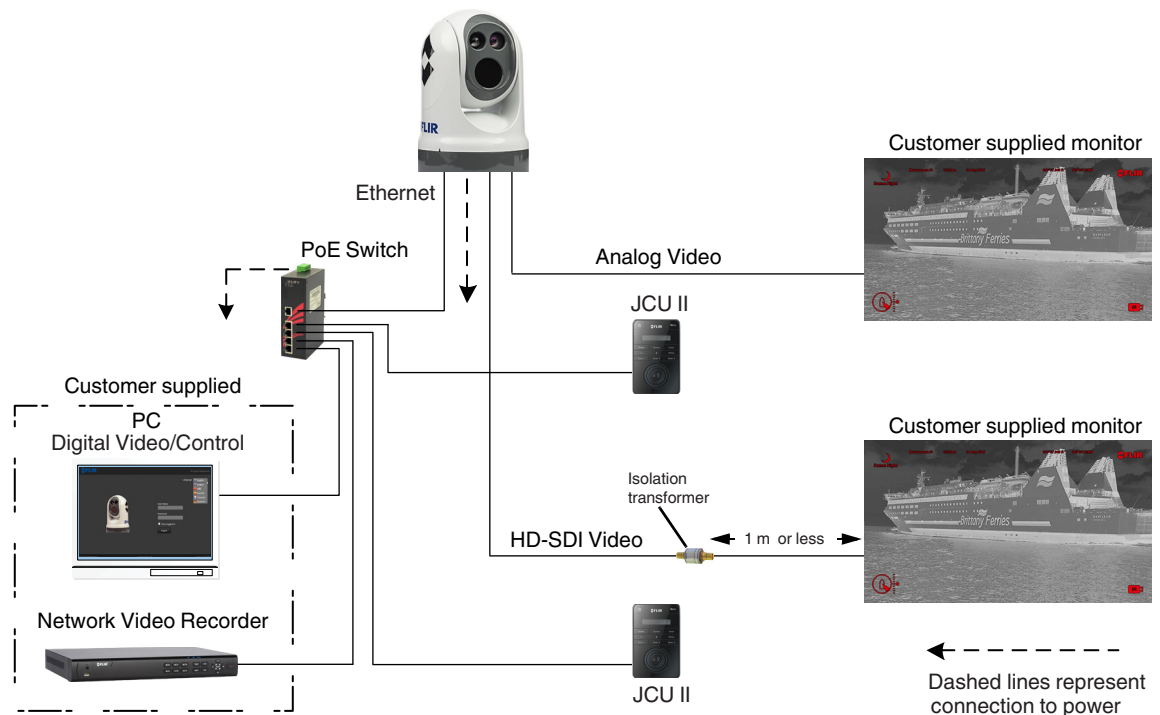

Figure 2-2: Three-Station System with Video Recorder
The JCU II selects which video output to view (IR or visible) on the monitor and to control the camera configuration using the OSD menus. If two JCU II are used (see Figure 2-2), typically, they are installed in different locations aboard the vessel, each with a monitor. They both can be switched on and enabled at the same time. The video to the monitor can be either the HD-SDI video signal or the composite analog video signal to match the customer supplied monitor. NMEA/ serial data connections and digital IP video connections are not shown below.
3. Connect the camera Ethernet to the switch, as shown in Figure 2-2.